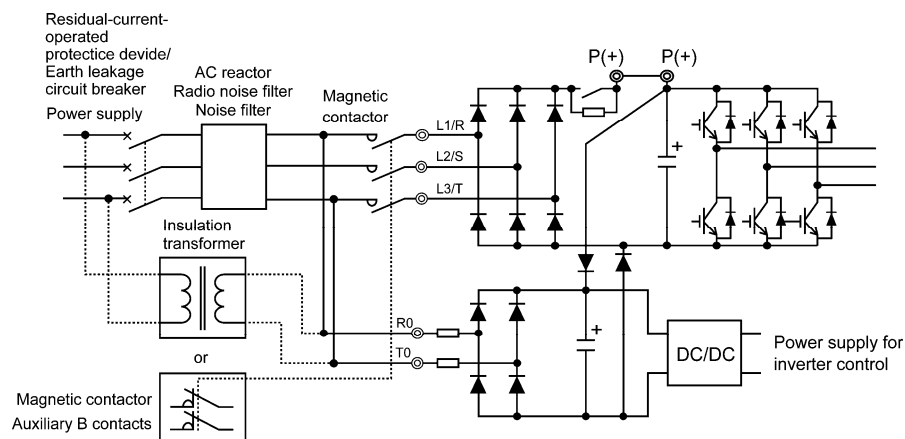

Figure 5.4 Connection Example of residual-current-operated protective device (RCD)/Earth Leakage Circuit Breaker (ELCB)
- When introducing a residual-current-operated protective device (RCD)/earth leakage circuit breaker (ELCB), connect its output (secondary) side to terminals R0 and T0. Connecting its input (primary) side to those terminals causes the RCD/ELCB to malfunction since the input power voltage to the inverter is three-phase but the one to terminals R0 and T0 is single-phase. To avoid such problems, be sure to insert an insulation transformer or auxiliary B contacts of a magnetic contactor in the location shown in Figure 5.4.